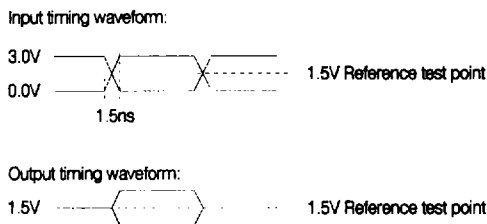

Fig 1 TIMING SPECIFICATIONS
9. All output timings are referenced to 1.5V and all input timings are referenced to 1.5V, unless otherwise specified. Inputs must be driven to the appropriate voltage levels indicated by the corresponding timing diagrams when A.C. specifications are measured, as shown in Figure 1.